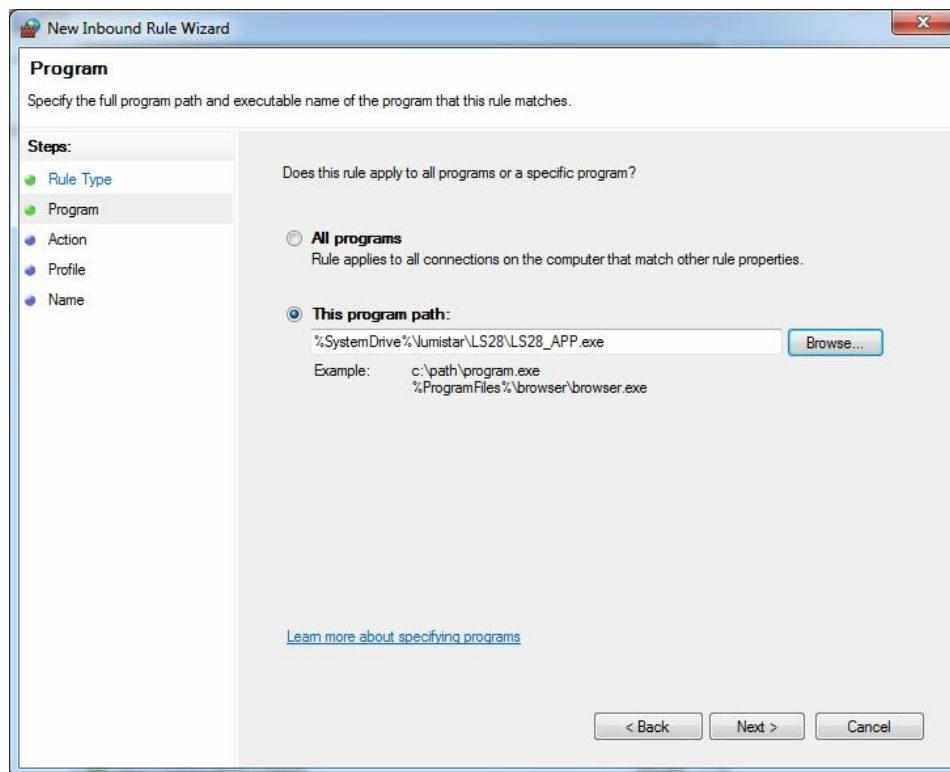

Figure 3-13 Windows Firewall – Advanced Security New Rule: Program
Step 7: The “New Rule” process will continue with the PROGRAM menu, browse to the route of the LS-28-DRSM installation and select the EXE file that is found there. The application will typically be located as shown in the following Figure 3-13.